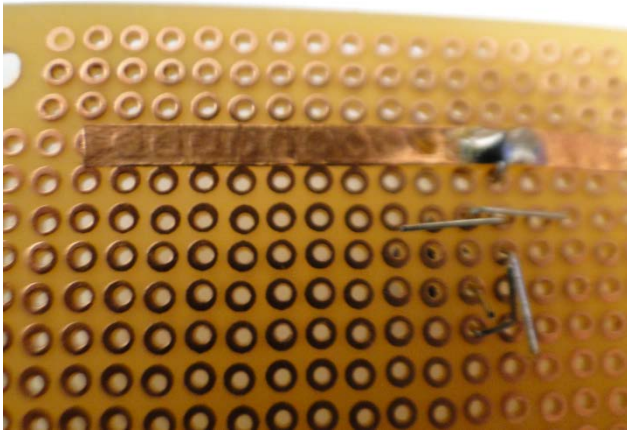

Figure 8
- Push leads to be connected through the top of the perfboard and bend them parallel to each other using needle-nose-pliers to form the leads, clip the excess using flush cutters, and solder the leads. Solder the leads to each other and to the copper pads to ensure maximum physical strength. See figures 8, 9, and 10 below for details.